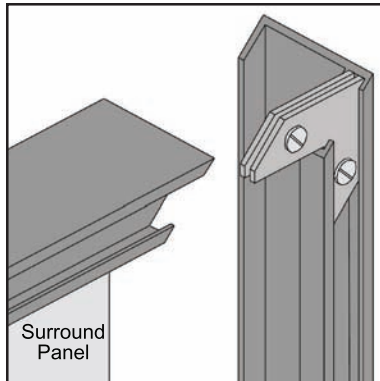
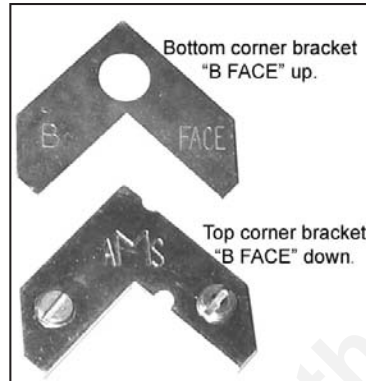

Figure 32: Corner brackets for trim.
Figure 33: Two pieces of corner bracket.
1. Attach one side trim to the top trim, using a corner bracket (see Figure 32) to secure pieces together. There are two (2) main pieces to each corner bracket (see Figure 33). When installing the corner pieces into the trim, the "B FACE" sides must face each other and the screw heads are to face out. With the bracket in place and the top and a side trim snug together, use a flat head screwdriver to turn the two (2) screws in the bracket to tighten it into the trim.